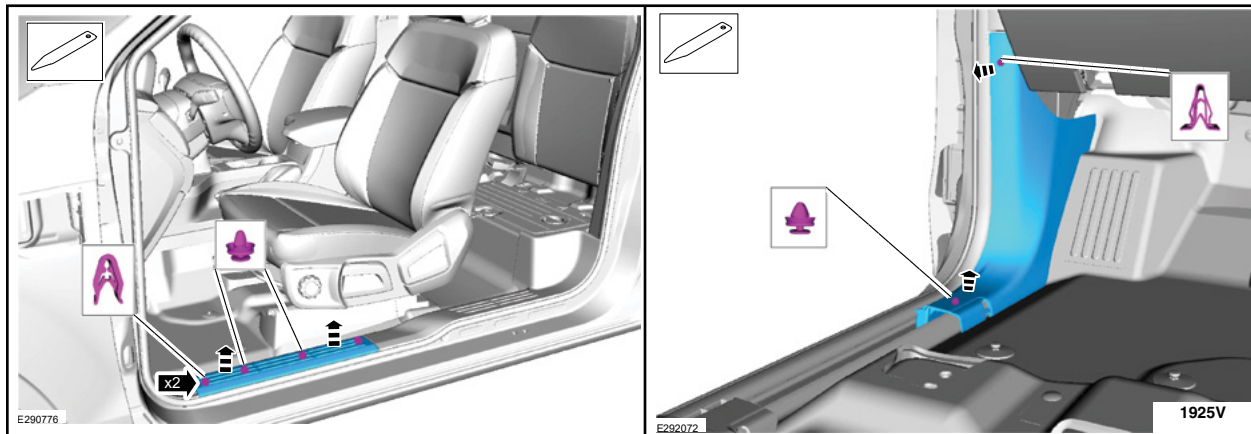

FIGURE 35
38. Install the front door scuff plate trim panel and cowl side trim panel on both sides of the vehicle. See Figure 35.